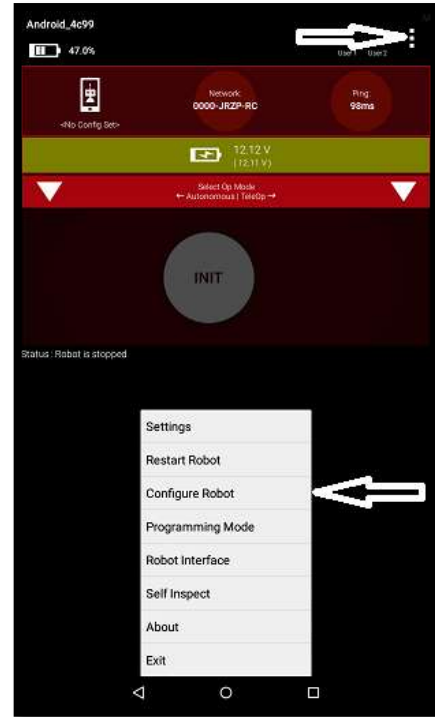

Figure 4: The miniBot is a Simple 2-Motor Robot
For this example, we will configure a simple two motor robot drivetrain (Figure 4).
2.4-7. Select the Drop Down menu for "Port 0" then select the motor type attached to the port. In the case of the Minibot in Figure 4, select the "Rev Robotics Core Hex Motor".